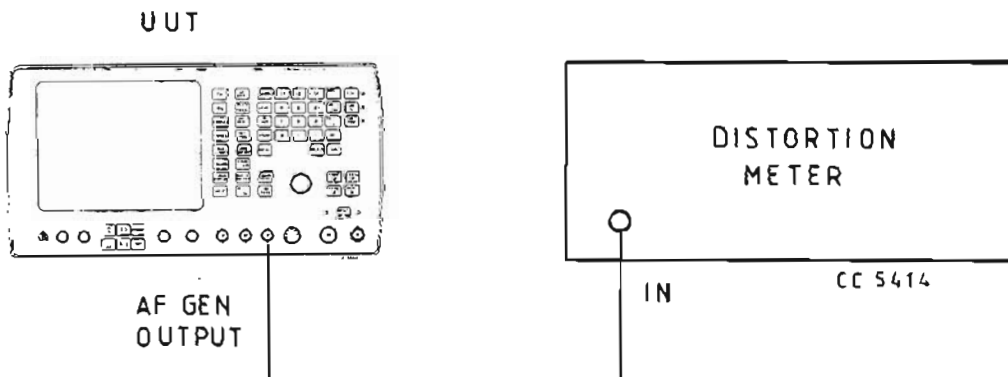

Fig. 13 Test equipment connections for a.f. generator distortion performance checks
- (1) Connect the equipment as shown in Fig. 13.